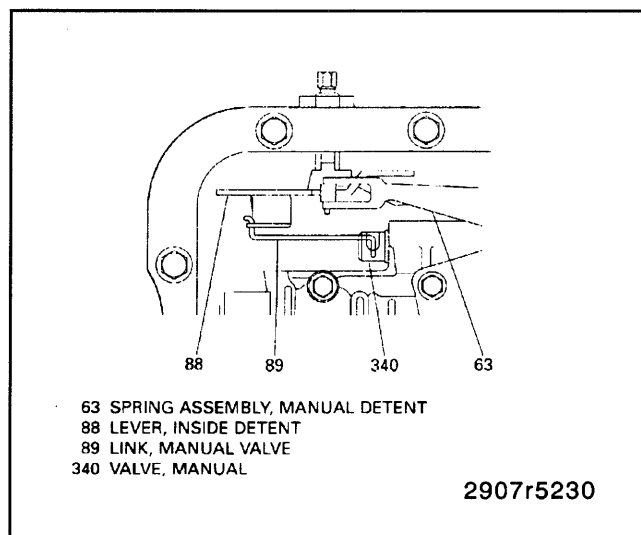

Figure 14—Manual Valve Link
11. Manual valve link (89) (figure 14).